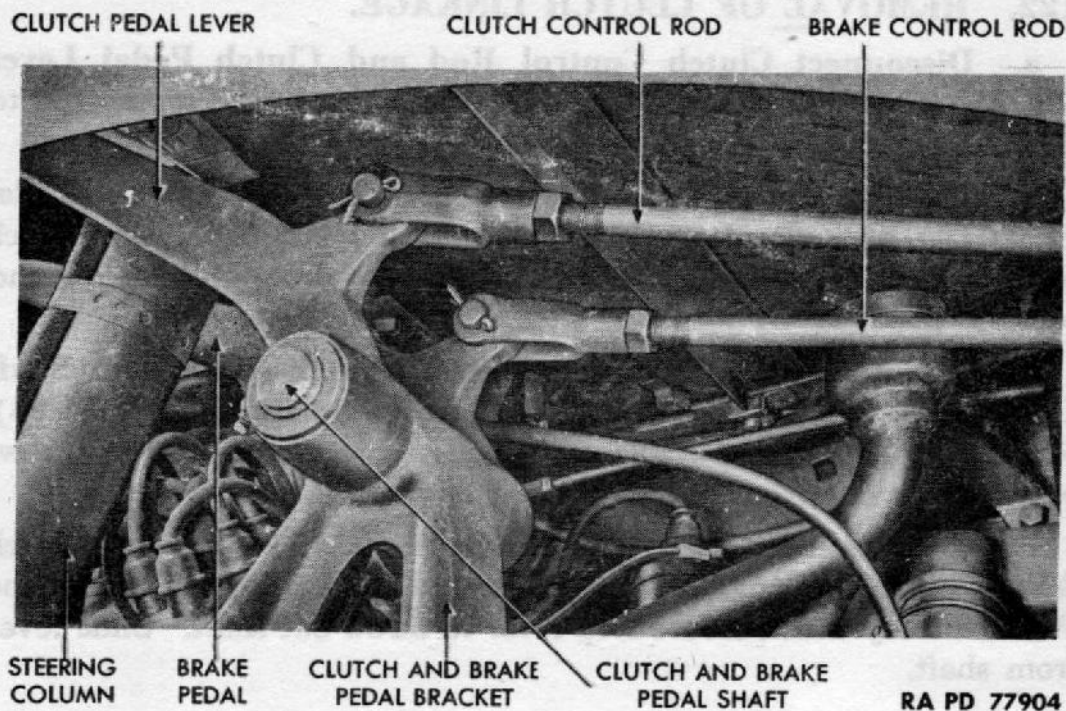

Figure 85 – Clutch and Brake Pedals and Linkage
a. **Disconnect Clutch Control Rod and Clutch Pedal Lever** (fig. 85). Remove the cotter pin and clevis pin which secure rod to lever.
b. **Remove Clutch Pedal Lever From Clutch and Brake Pedal Shaft** (fig. 85). Remove taper pin, lock ring, and flat washer which connect lever to shaft. Slide shaft over, away from clutch side, and remove pedal lever.
e. **Install Clutch Pedal Lever on Clutch and Brake Pedal Shaft** (fig. 85). Slide pedal shaft over, away from clutch pedal side. Position pedal rod on end of shaft. Secure with the flat washer, lock ring, and taper pin.
f. **Connect Clutch Control Rod and Clutch Pedal Lever** (fig. 85). Pull clutch pedal back to toeboard. Position clutch control rod, and adjust length to exactly fit between clutch pedal and clutch